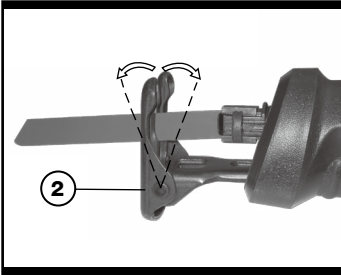

Fig. 2
1. PIVOTING BLADE FOOT (See Fig.2 , 3)
being cut to reduce saw vibration, blade jumping and blade breakage. (See Fig.2)